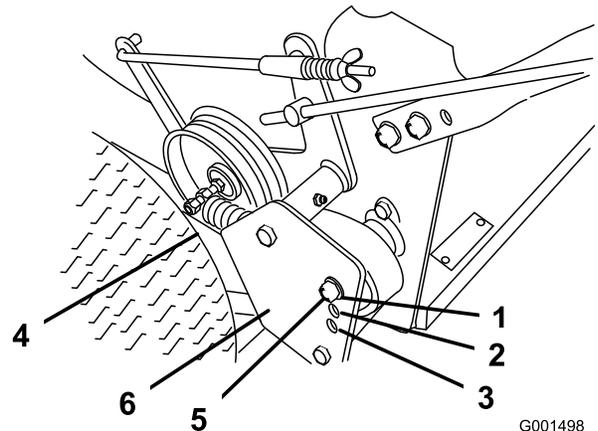

Figure 10
4. Remove the drive spring from the adjustment bolt (Figure 10).
5. Remove the locknut that secures the adjustment bolt to the drive-pulley shield (Figure 10).
- Note:** The wheel drive tension is lowest when the bolt assembly is in Position A. The tension increases in Positions B and C (Figure 10).